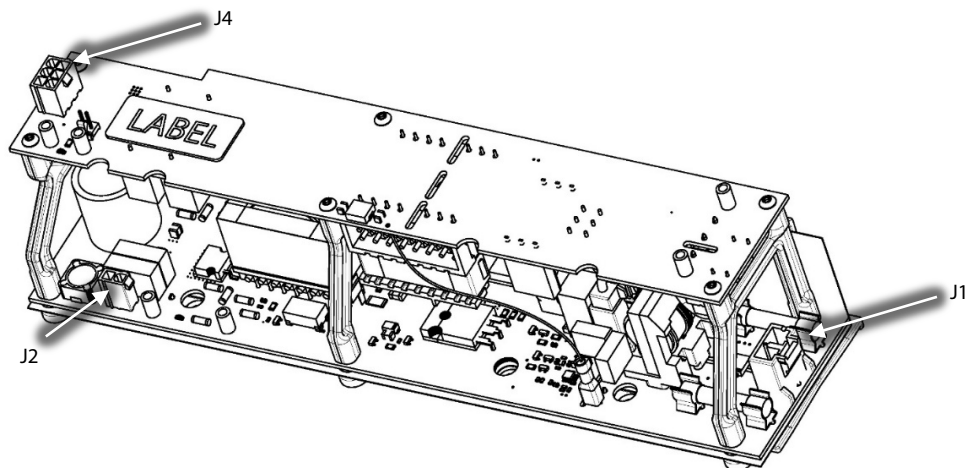

Figure 9 – Open Frame DC-DC Converter Connector Locations
- Remove the three (3) connectors (DC Bus Input (J1), 250VDC Output (J2), and 24VDC output (J4)) from the DC-DC Converter. Refer to Figure 9 (Open Frame DC-DC Converter Connector Locations).